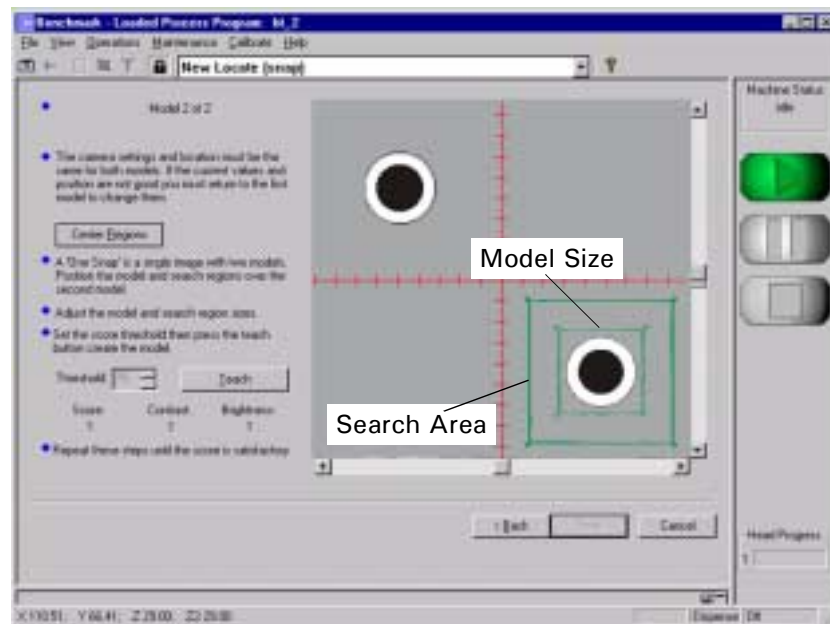

Figure 8-16
15. Using the handles drag and adjust the **Search Area** and **Model Size** bounding boxes so that they are centered over the second fiducial. See Figure 8-16.